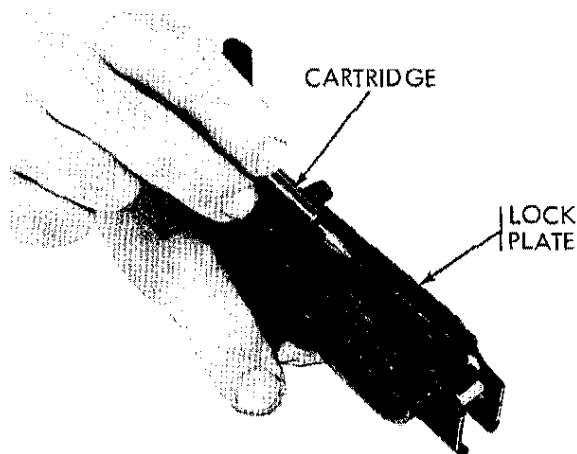
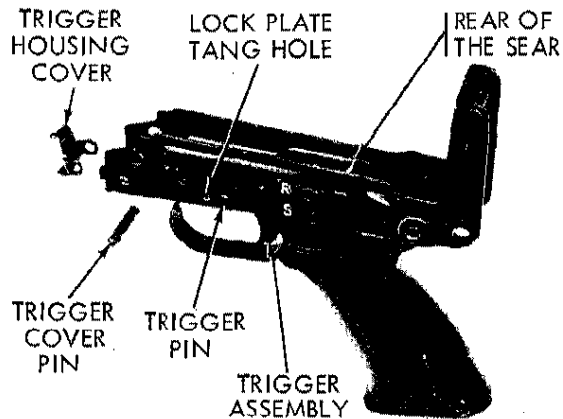
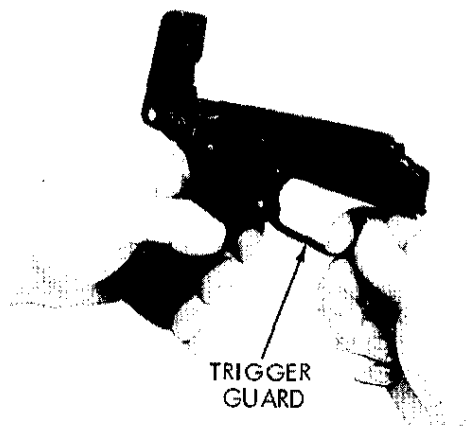

FIGURE 19. PUSHING LOCK PLATE FORWARD
FIGURE 20. REMOVE TRIGGER AND TRIGGER HOUSING COVER
FIGURE 21. REMOVING TRIGGER GUARD
(1) Hold the trigger housing group in the vertical position. Insert the point of a cartridge into the hole that the lock plate tang is engaged in and push the lock plate forward as shown in figure 19. The lock plate must remain forward during disassembly of the trigger housing group so that the trigger pins can be removed.
(2) Push out the trigger pin and the trigger housing cover pin (fig. 20) and remove the trigger housing cover (fig. 20). Remove the trigger by pushing down on the rear of the sear and pushing up on the trigger assembly.
(3) Remove the lock plate by grasping the extended front edge and remove.
(4) Remove the trigger guard by pushing down on the front of the guard until it unlatches (fig. 21). Remove the trigger guard from rear notch.
(1) Place the lock plate in the left side of the trigger housing group, as shown in figure 19, insuring that the lock plate is held in position by the two lock plate guide pins. The lock plate must remain forward during assembly of the trigger housing group.
(2) Depressing the rear of the sear, insert the trigger from the the top of the trigger housing.
(3) Replace the trigger pin.
(4) Replace the trigger housing cover (fig. 20) and insert the trigger housing cover pin.
(5) Align the trigger pins, and push the extending edge of the lock plate to the rear. The front edge of the lock plate should be flush with the forward edge of the trigger housing, and the lock plate tang should be seated in the lock plate tang hole (fig. 20).
(6) Replace the trigger guard (fig. 21) by engaging it in the notches provided.
(1) Replace the bolt in the bolt carrier with the ejector groove in the bolt facing toward the cam track in the bolt carrier.
(2) Insert the cam pin thru the cam track and into the cam pin hole in the bolt. The flat side of the cam pin guide lug must be in line with the lower side of the bolt carrier, as shown in figure 20.